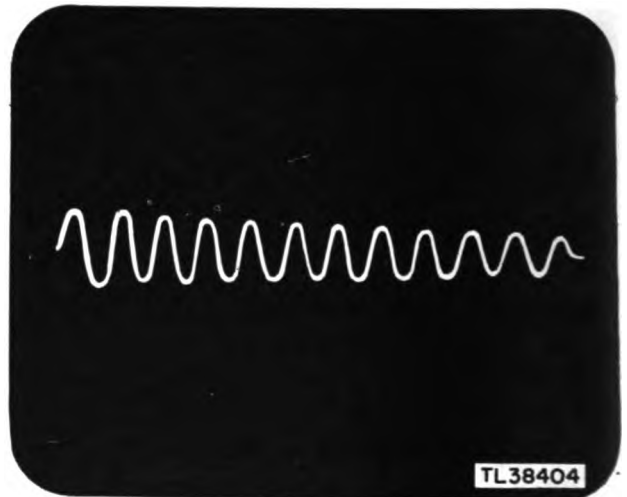

Figure 72. Calibration.
l. Turn the CALIB. control in a counterclockwise direction until 12 complete cycles are visible (fig. 72).